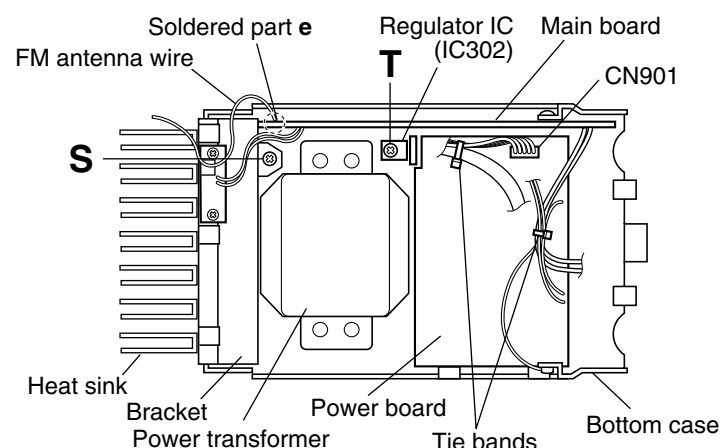

Fig.19
4. From the top side of the main body, remove the screw **S** retaining the bracket of the main board. (See Fig.19.)
5. Remove the screw **T** retaining the regulator IC(IC302). (See Fig.19.)
6. Remove the tie band bundling the wires. (See Fig.19.)
7. Disconnect the wire from the connector CN901 on the power board. (See Fig.19.)
8. Remove the solder from the soldered part **e** that attaches the FM antenna wire to the main board. (See Fig.19.)